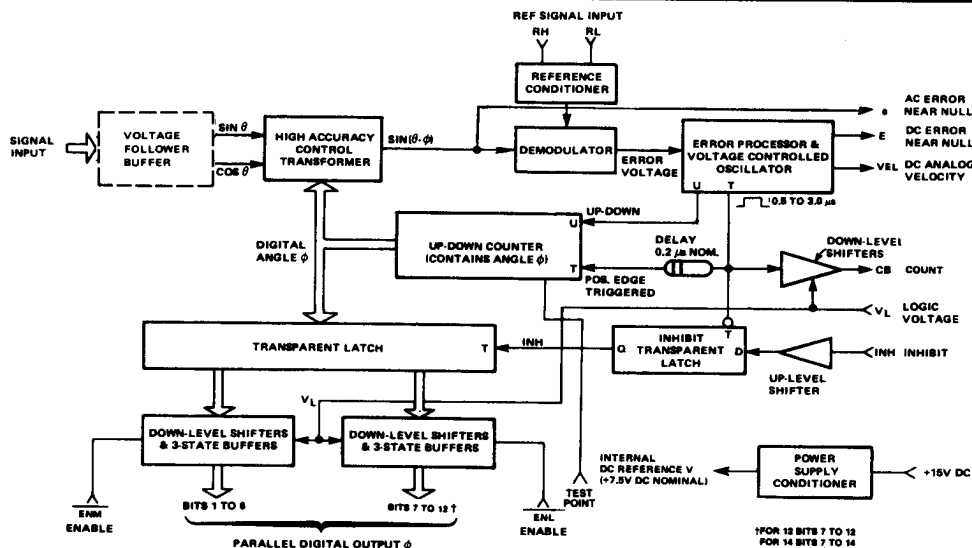

FIGURE 1. BLOCK DIAGRAM
Digital outputs include Count (CB), which is useful for turns counting applications. An Inhibit (INH) input provides a means for freezing parallel data in the transparent latch (figure 1), while the converter continues to track the input. Parallel data, which is 3-state natural binary angle is available in two bytes for interfacing with
Logic outputs consist of 12 or 14 parallel data bits and count (CB). All logic outputs are short-circuit proof to ground and to positive voltages as high as  $V_L$ . The CB output is a positive 0.7-2.0  $\mu$ s pulse and data changes about 0.2  $\mu$ s after the leading edge of the pulse, because of an internal delay (figure 1). Data is valid 0.5  $\mu$ s after leading edge of a CB. Angle is determined by adding bits in the "1" state.
The Inhibit (INH) logic input locks the transparent latch so that the bits will remain stable while data is being transferred (see Figure 1). The output is stable 0.5  $\mu$ s after the Inhibit is driven to logic "0". A logic "0" at the T input locks the latch, and a logic "1" allows the bits to change. The purpose of the INH transparent latch is to prevent the transmission of invalid data when there is an overlap between the CB and INH. While the counter is not being updated the CB is at logic "0" and the INH latch is transparent. When the CB goes to logic "1" the INH latch is locked. If a CB occurs after an INH has been applied, the latch will remain locked and its data cannot change until the CB returns to logic "0". If an INH is applied during a CB pulse, the latch will not lock until the CB pulse is over. The purpose of the 0.2  $\mu$ s delay is to prevent a race condition between the CB and the INH in which the up-down counter begins to change just as an INH is applied.